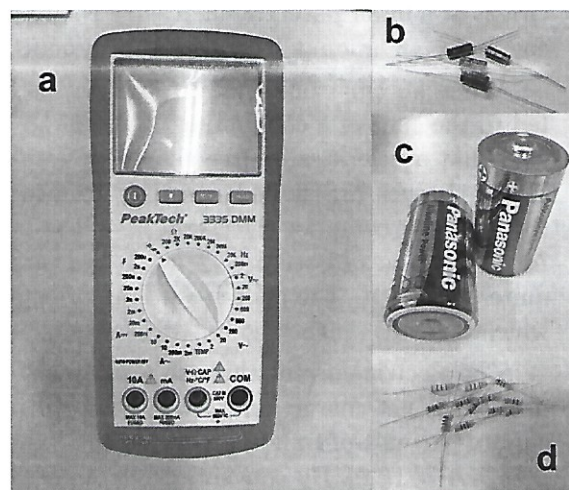

Fig. 4. Elements of the electric circuits: (a) Multimeter, (b) capacitors, (c) batteries and (d) resistors.
–Resistors, capacitors multimeters, batteries and connecting cords (see Fig. 4).